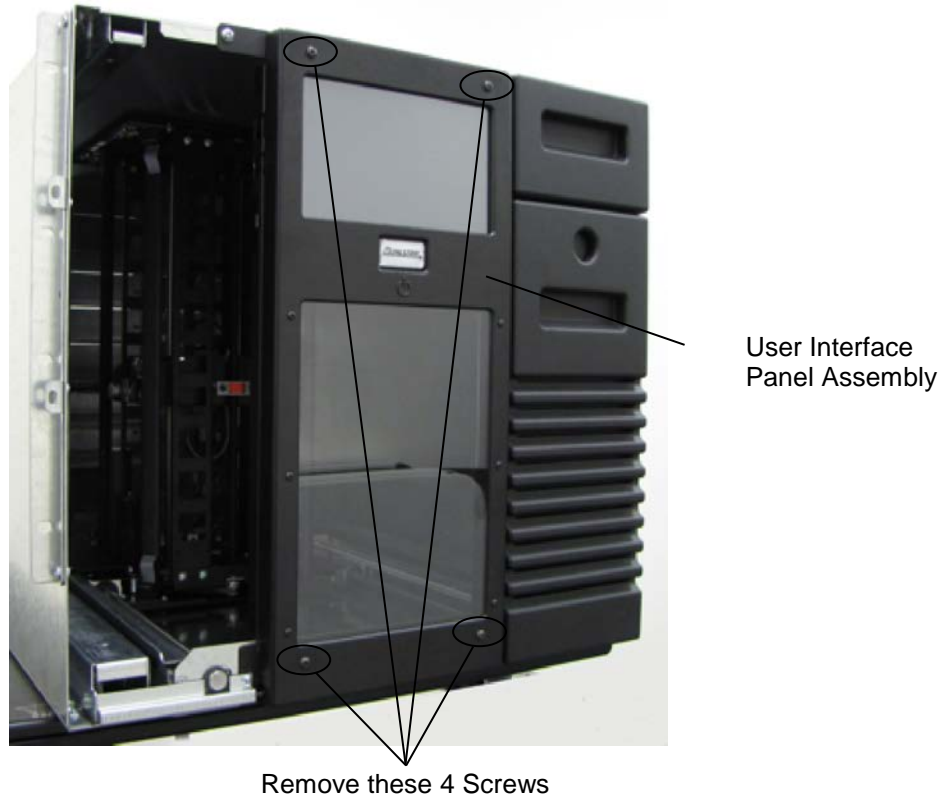

Figure 5-12 Screws shown securing the face of the User Interface Panel Assembly
20. Using the supplied 3/32 Allen wrench remove the four screws shown in Figure 5-12 that secure the user interface panel assembly. Use caution to avoid damaging the touch screen while using the wrench.
26. Using the 3/32 Allen wrench replace the four screws removed earlier that secure the panel to the user interface assembly. See Figure 5-12. Use caution to avoid damaging the touch screen while using the wrench and do not over-tighten the screws.
10. Using a 3/32 Allen wrench remove the four screws shown in Figure 5-12 that secure the user interface panel assembly. Use caution to avoid damaging the touch screen while using the wrench.